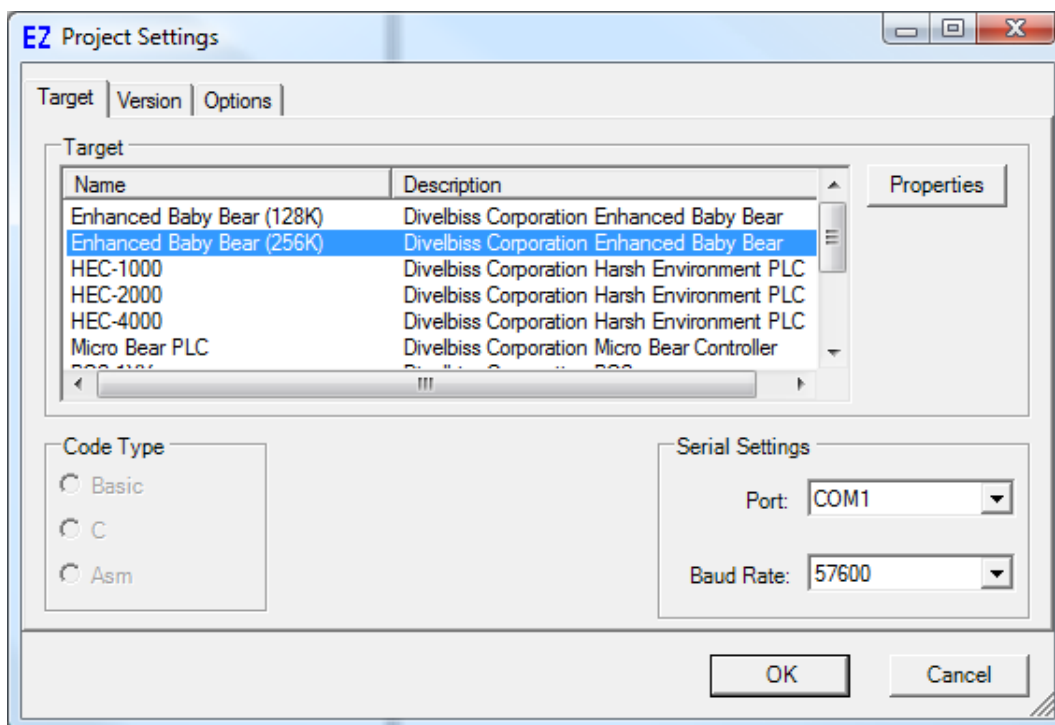

Figure 1.1 - Project Settings Window
1. In EZ LADDER, from the File Menu at the top, click **PROJECT** then **SETTINGS**. This will open the Project Settings Window. Select **Enhanced Baby Bear (128K)** or **Enhanced Baby Bear (256K)** based on you actual model from the choices. Refer to Figure 1.1.